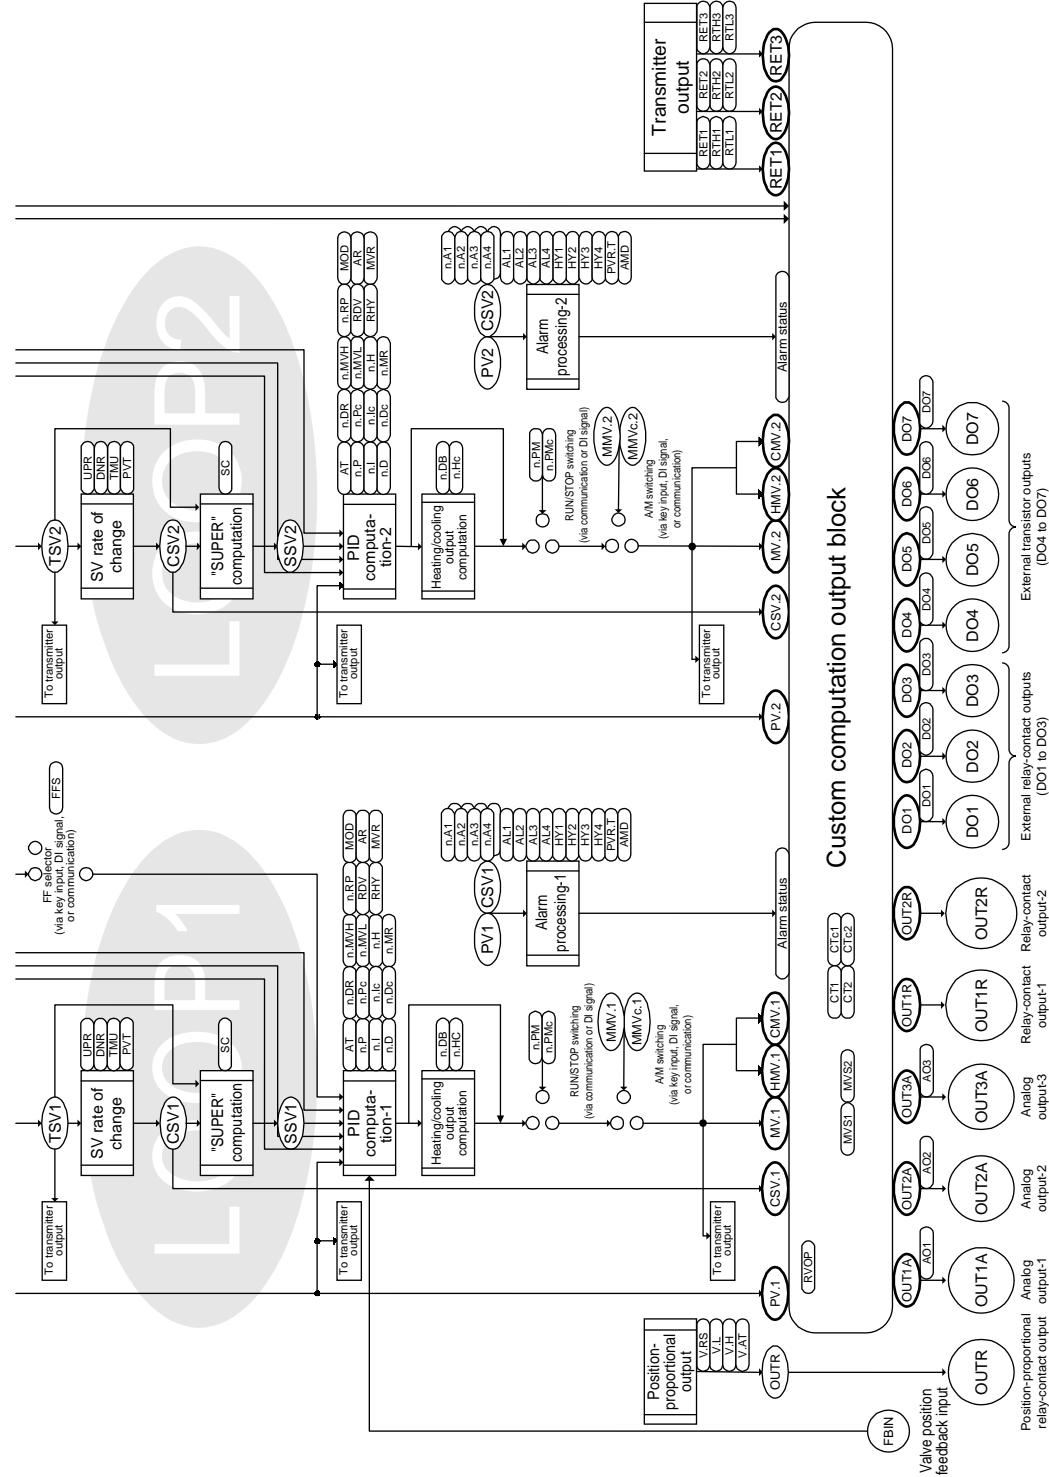

Figure 2.3 Block Diagram of US1000 Control and Computing Section
Figure 2.3 shows the US1000 control and computing section, focusing on signals that go in and out of the custom computing input and output blocks. This figure thus clarifies where the input and output blocks are positioned in the control and computing section.
■ Explanation of Symbols and Numbers Used in the Block Diagram of US1000 Control and Computing Section (Figure 2.3)
Names and symbols used in the block diagram of the control and computing section (Figure 2.3) are as summarized below:
Figure 2.3 below shows a configuration diagram of the US1000 control and computing blocks.